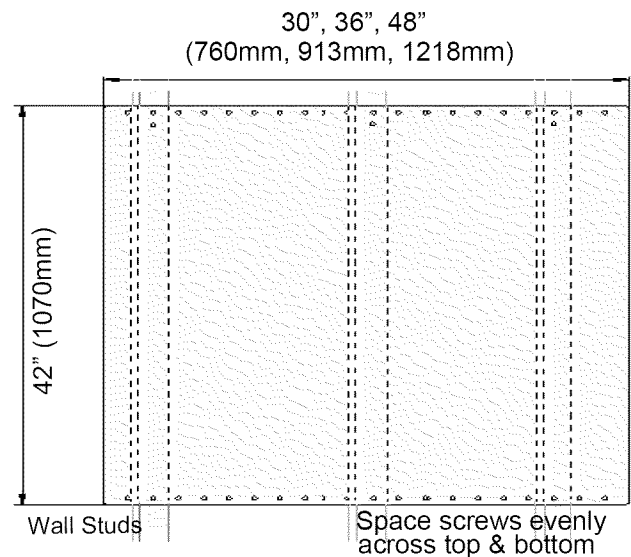

Figure 15: Backsplash Installation
3. Per each wall stud, use (2) of the provided screws to secure both the top and bottom of the backsplash (see *Figure 15*).